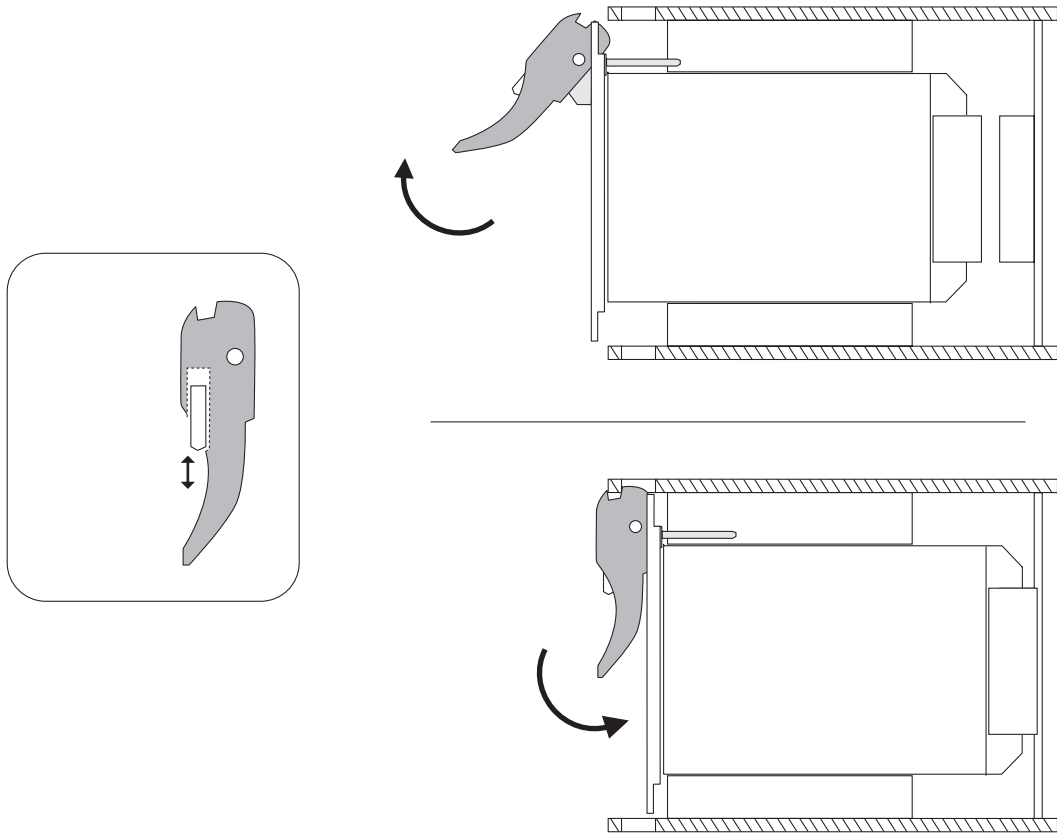

FIGURE 6-2 Injector/Ejector Operation (Power Supplies)
This levers the power supply away from the backplane (FIGURE 6-2).
3. Prepare the power supply by opening the injector/ejector mechanisms (FIGURE 6-2).
See FIGURE 6-2. The green LED on the power supply should come on when the power supply is fully inserted.